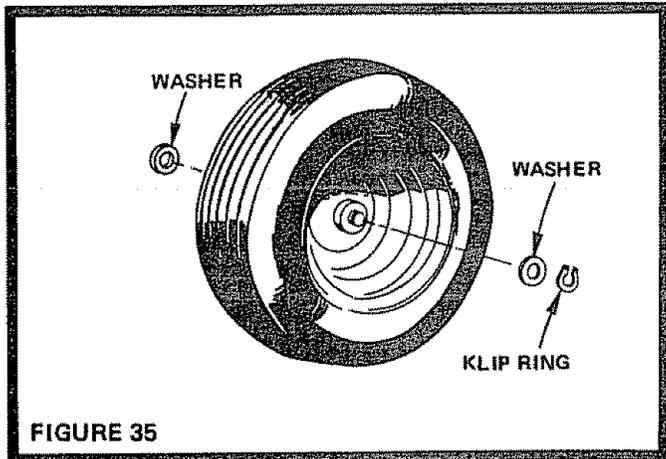

FIGURE 35
- Removing front wheel for tire repair (Fig. 35).